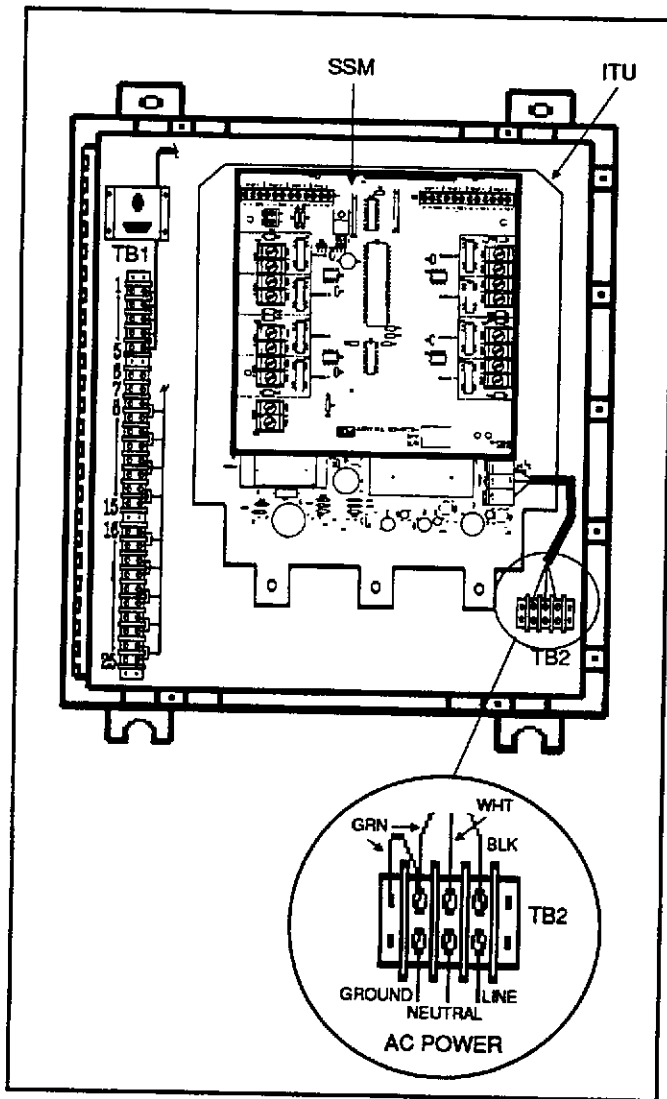

Figure 2-2. Wiring the AC Power to the ITU.
Figure 2-2. Wiring the AC Power to the SSU . . . . .	2-4
3. Connect the ground lead to the "GROUND" terminal, the line lead to the "LINE" terminal, and the neutral lead to the "NEUTRAL" terminal as shown in Figure 2-2.